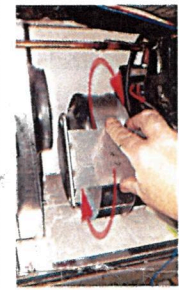

Figure 5
2. Rotate the fan bracket in a counter clockwise direction and hook the bracket onto the (4) screws. (Figure 5).
3. Secure the fan bracket to the fan panel by tightening the (4) mounting screws.